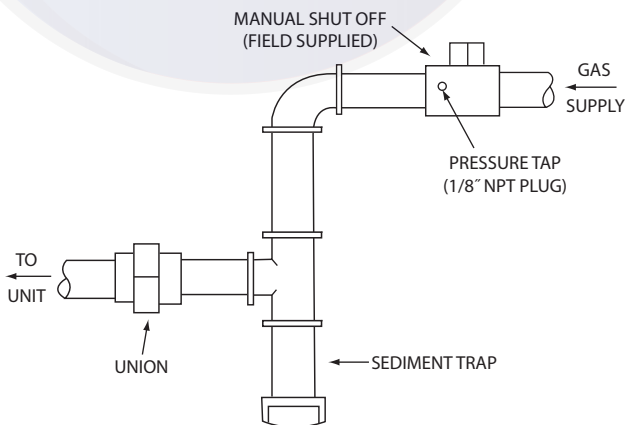

Fig. 6 - Field Gas Piping
2. Connect pressure gauge to supply gas tap, located on field-supplied manual shutoff valve. (See Fig. 6.)